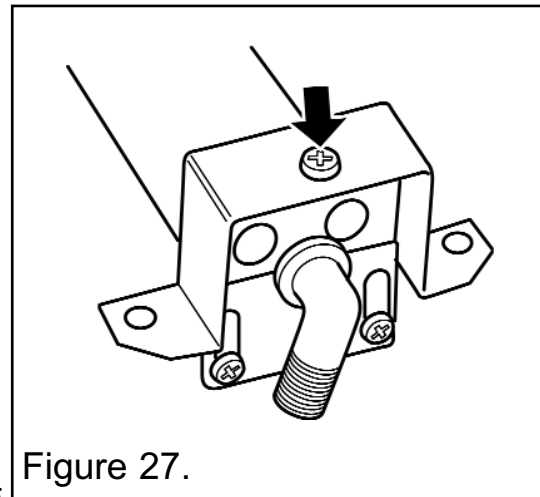

Figure 27.
2. Remove the burner clamping screw (See figure 27).